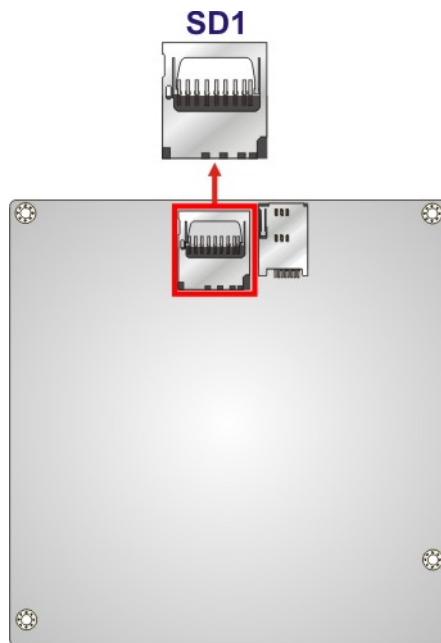

Figure 3-21: SD Card Slot Location
- CN Location:** See **Figure 3-21**